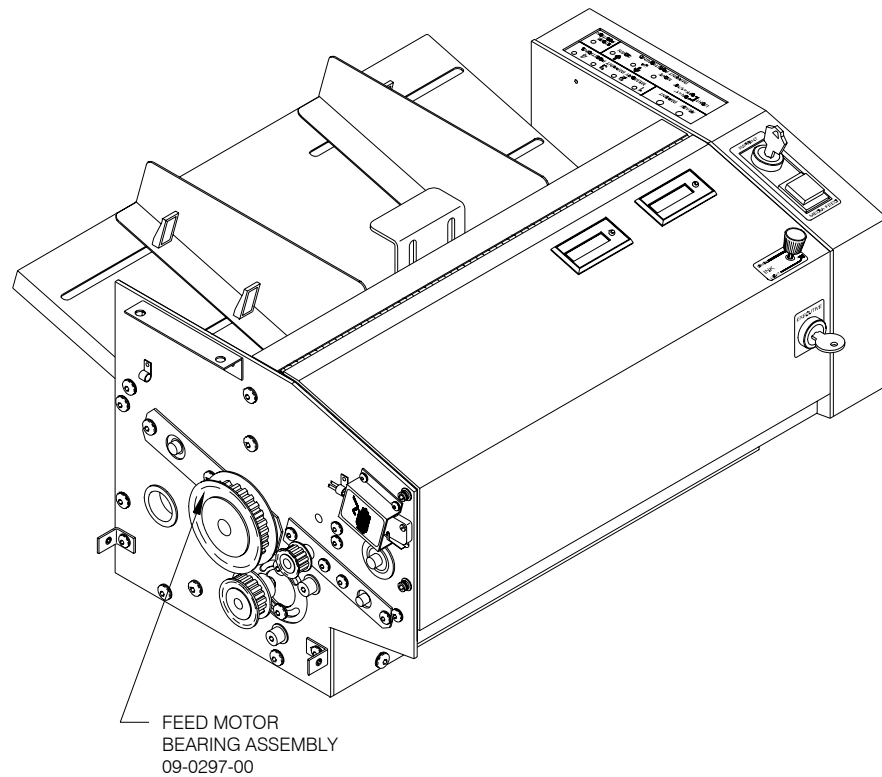

Figure 7.9 -- Feed Motor Bearing Assembly
5. Remove the FEED MOTOR BEARING ASSEMBLY. (Refer to **Figure 7.9.**)
13. Install the FEED MOTOR BEARING ASSEMBLY. (Refer to **Figure 7.9.**)